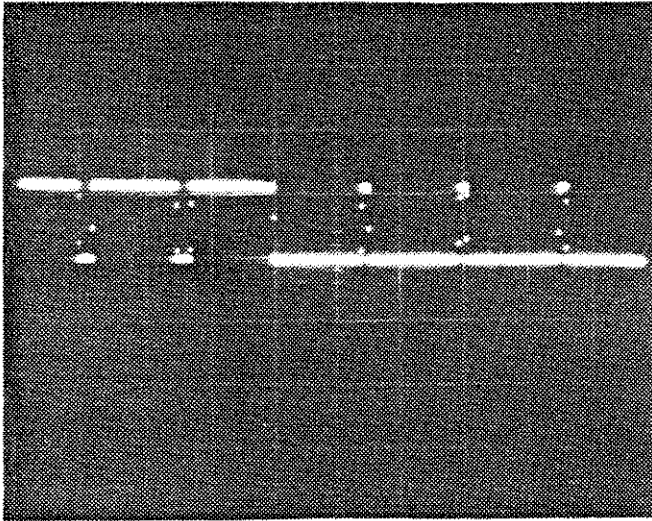

Fig. 6-4 Vertical sync pulse display using trigger delay.
10. Check that a vertical sync signal exists behind the present horizontal sync pulse. Press the TRIG DELAY key (time position) and use the Parameter Entry Knob to set the trigger delay to about 100  $\mu$ s (Fig. 6-4).